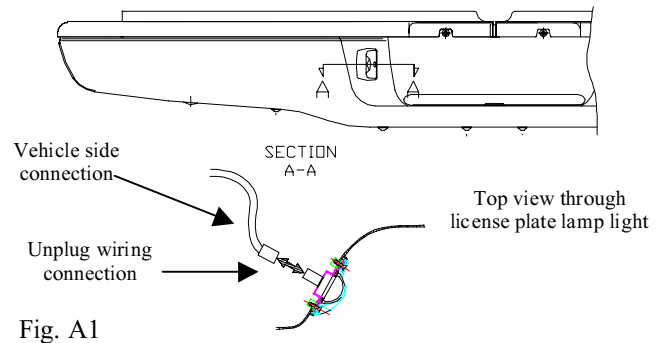

Fig. A1
-  ii. Unplug bumper license plate lamp wiring from vehicle side connection. (Fig. A1)